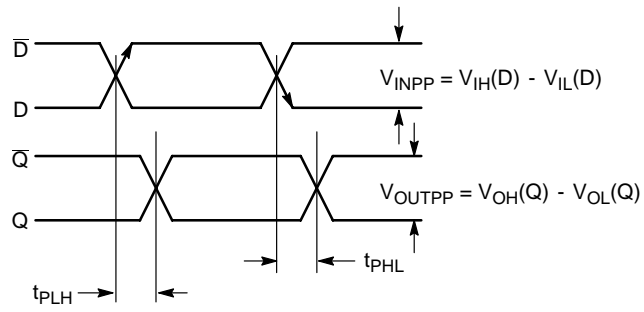

Figure 10. AC Reference Measurement
20. $t_{SKEW} = |t_{PLH}-t_{PHL}|$ for a nominal 50% differential clock input waveform. See Figure 10.
24. $t_{SKEW} = |t_{PLH}-t_{PHL}|$ for a nominal 50% differential clock input waveform. See Figure 10.
28. $t_{SKEW} = |t_{PLH} - t_{PHL}|$ for a nominal 50% differential clock input waveform. See Figure 10.
32. $t_{SKEW} = |t_{PLH} - t_{PHL}|$ for a nominal 50% differential clock input waveform. See Figure 10.